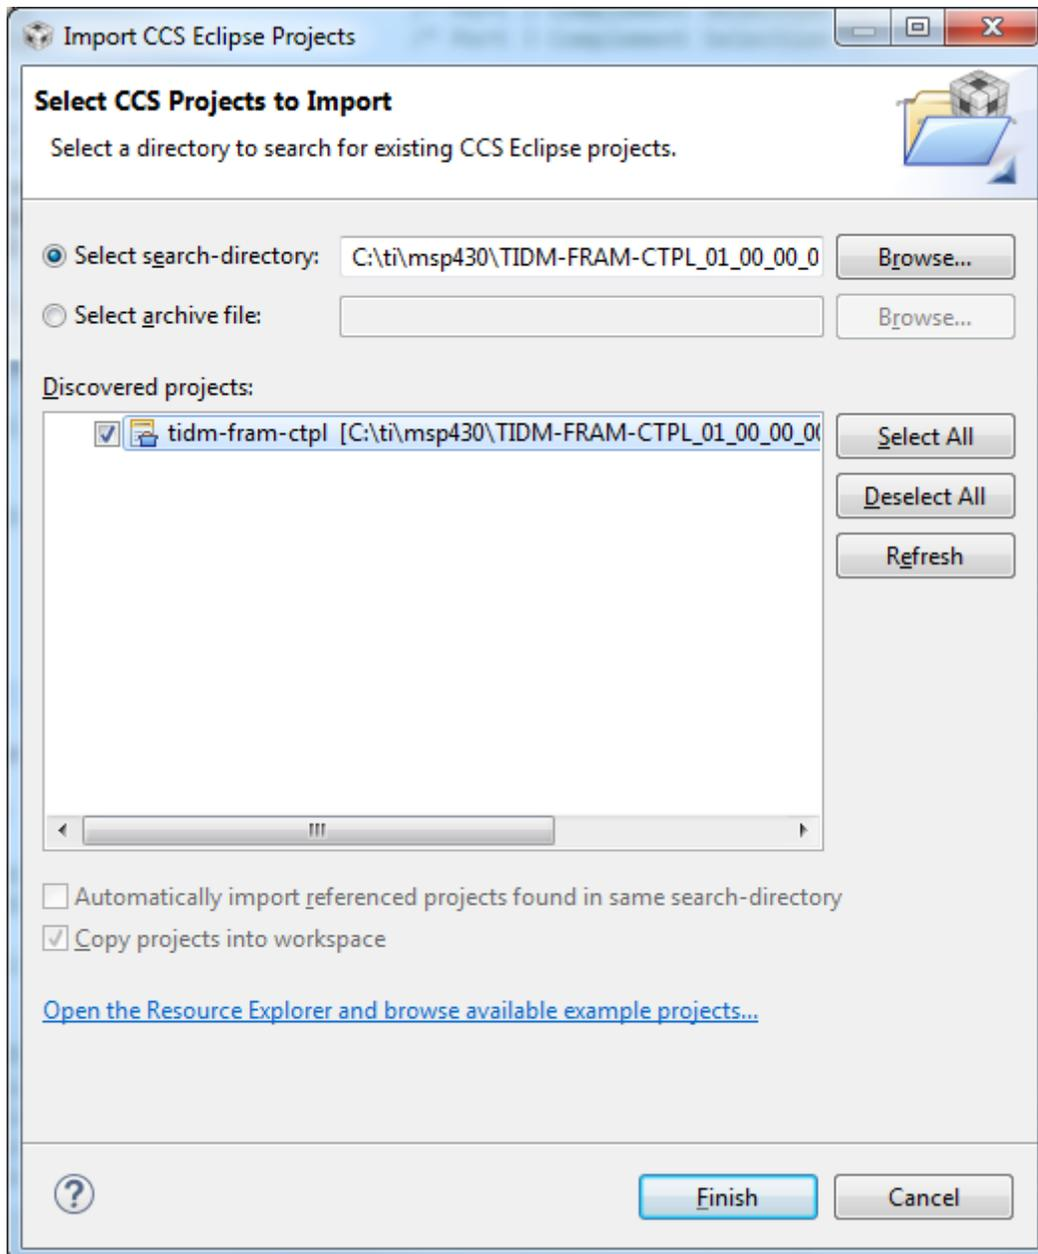

Figure 6. CCS Import Project
5. Navigate to c:\ti\msp430\TIDM-FRAM-CTPL\_xx\_xx\_xx\_xx\CCS\ (see Figure 6).